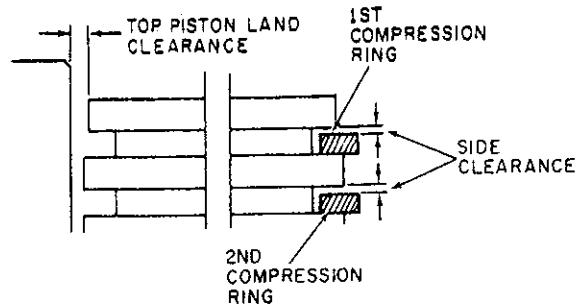

Figure 20
- (2) Check piston ring side clearance in groove using new piston ring in clean groove. (See Figure 20.) Compare measured clearance with recommended dimensions listed in ENGINE SIZES AND CLEARANCE table.